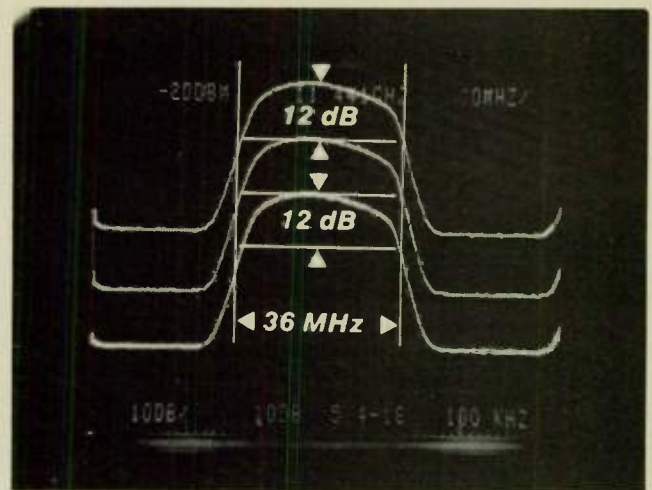

Fig. 4 Transmission-bandwidth illustration using different measurement resolution bandwidths.
power after the filter. Both numbers meet the intent of the FCC specifications, although referencing to the output of the filter makes the specification slightly tighter. The remainder of the measurement is illustrated in Figure 4, where the spectrum shape is observed using three different resolution bandwidths. In each case, the shape is the same and the bandwidth is 36 MHz at 12 dB down (note  $38 + 12 = 50$ ). The change in bandwidth, in each case by a factor of 10 times, moves the spectrum shape by 10 dB ( $10 \log 10 = 10$  dB), but this movement has no effect on the bandwidth measurement.
**Spectrum Symmetry:** Figure 4 clearly shows an unsymmetrical mainlobe that indicates transmitter misadjustment.